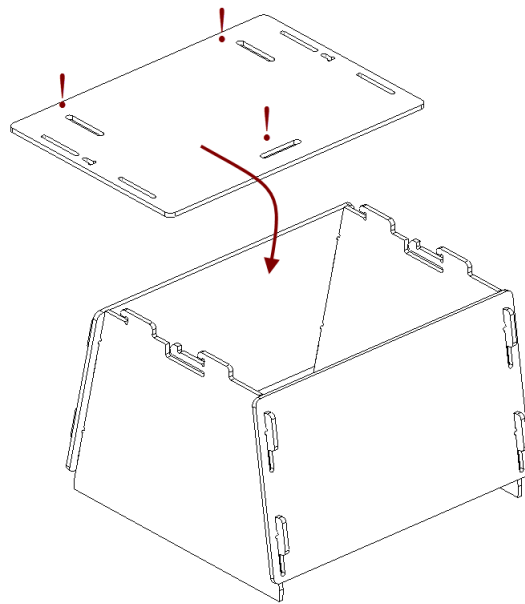

Figure 165: Mounting the cover.
3. Paying attention to orientation of the slots, install the cover using the upper hooks of the side walls (see Figure 165).